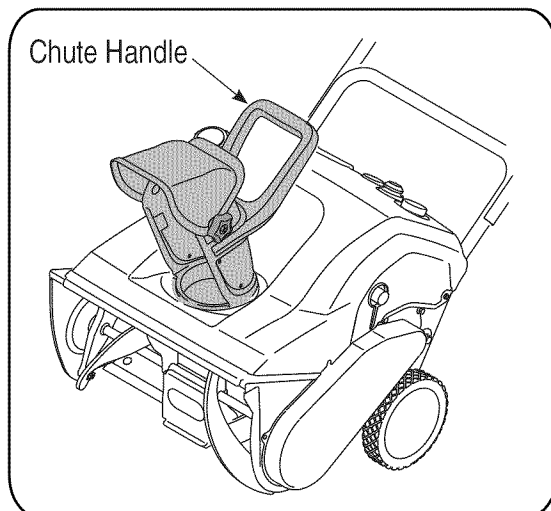

Figure 3
3. Resecure with the hardware just removed. If installed correctly, your snow thrower should look like Figure 3.